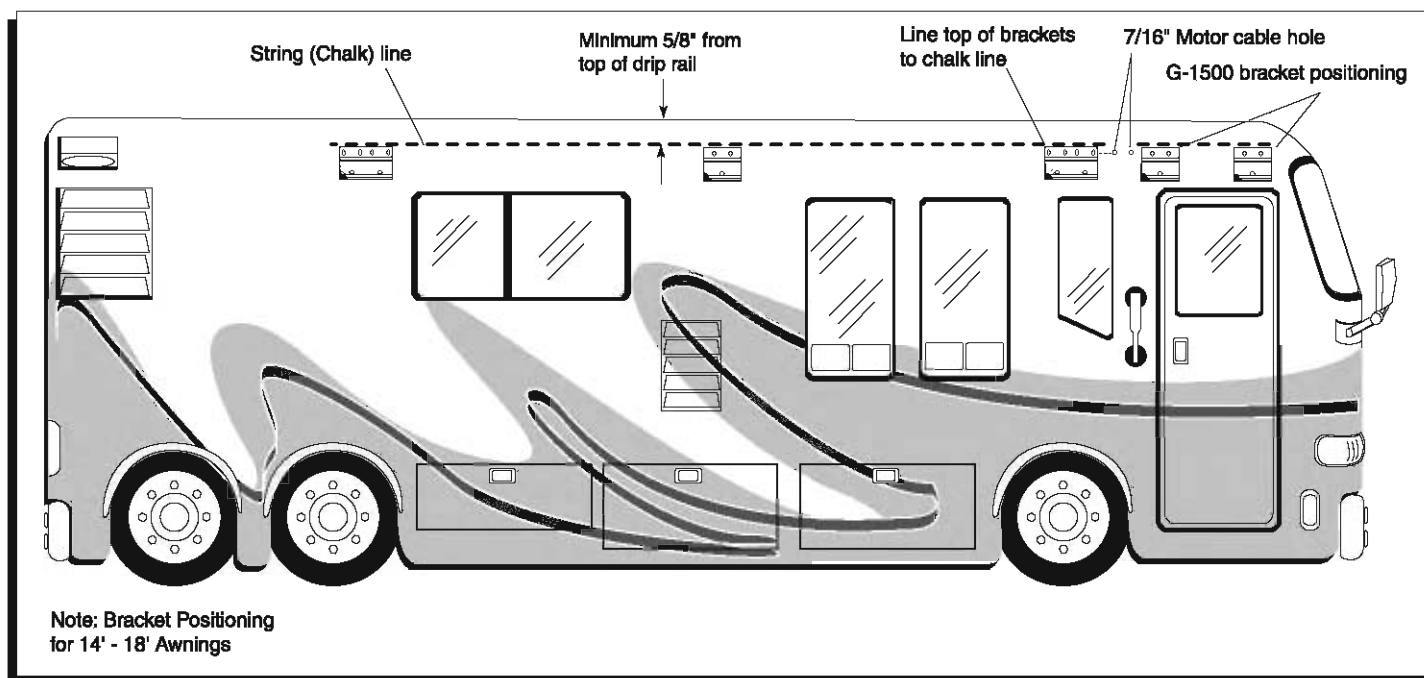

FIGURE 21
5. Snap a string (chalk) line along the side of the vehicle to ensure horizontal accuracy of the mounting brackets. Minimum 5/8" from bottom of the drip rail (Fig. 21).